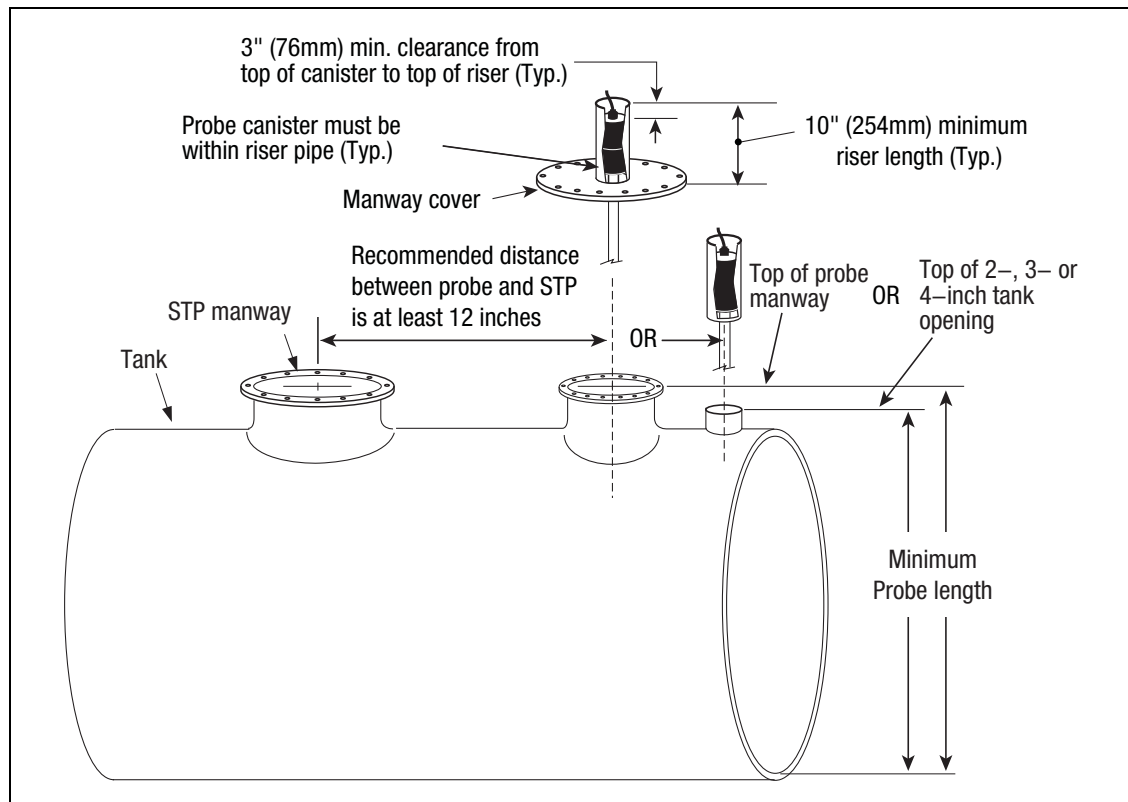

Figure 4. Determining the minimum mag probe length
1. Measure the distance from the bottom of the tank to the top of the probe manway, or the 2-, 3- or 4-inch tank opening- this is the minimum probe length (ref. Figure 4).